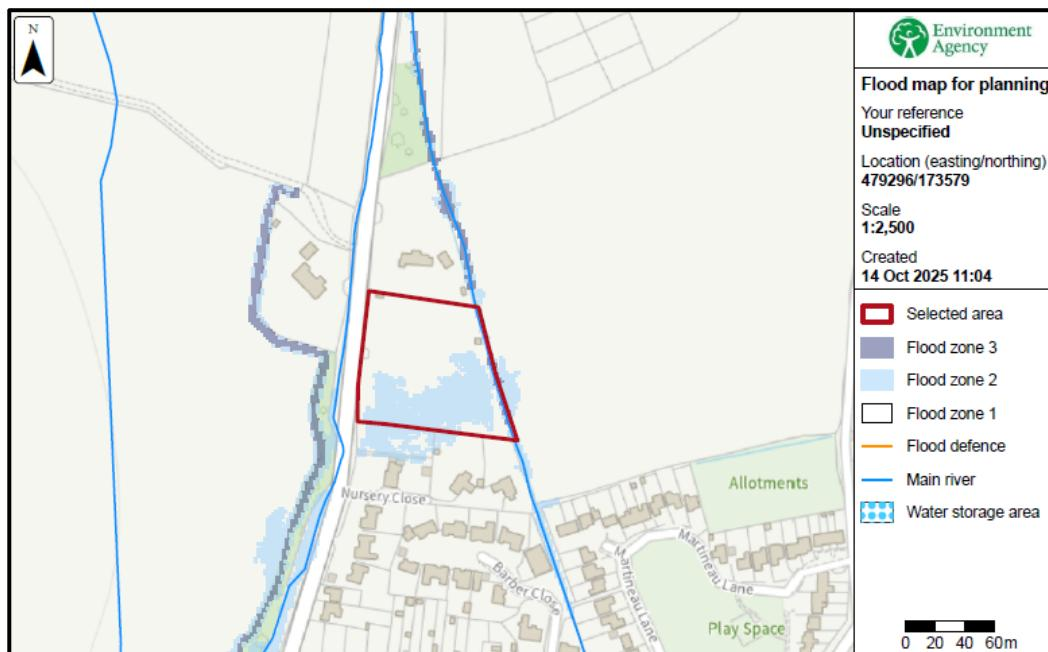

Figure 2: Flood Map for Planning (Source: EA)
2.1 Environment Agency mapping shows that the southern half of the site is flood zone 2, with the remainder of the site in flood zone 1. The Environment Agency's flood map for planning is presented at Appendix 5 and an extract of this is provided at Figure 2 for reference.